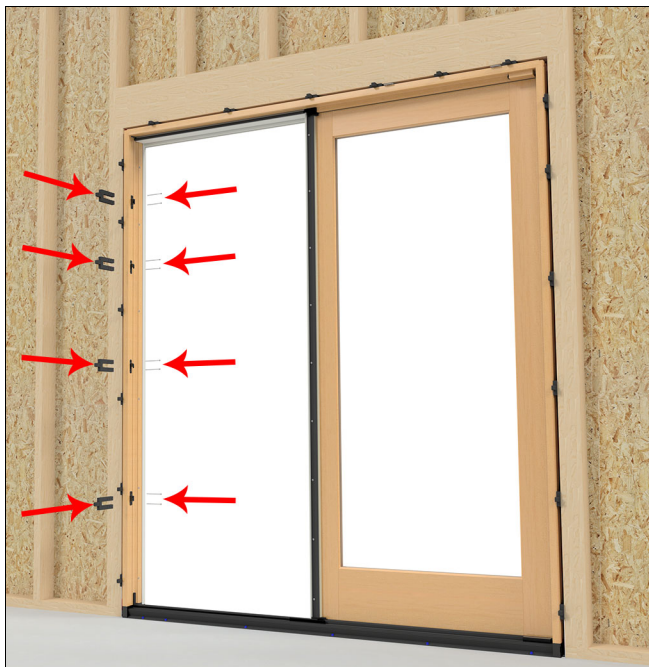

Figure 46
1. Once the operator panel is adjusted properly, remove the temporary screws from the adjustment bolts and the keepers. Replace these with #8 x 3" installation screws into the rough opening. Be sure to shim properly so that you do not bow the jamb. See Figure 46.